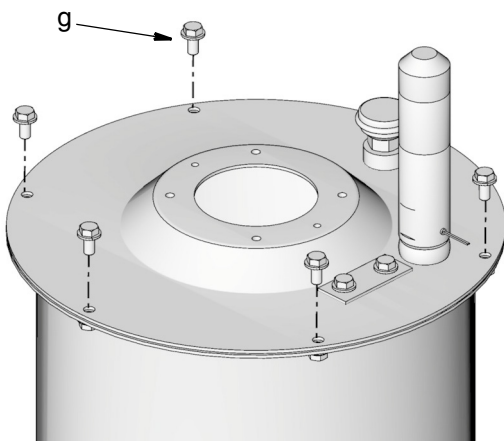

FIG. 9
15. Replace and tighten screws (g) securely (FIG. 9).